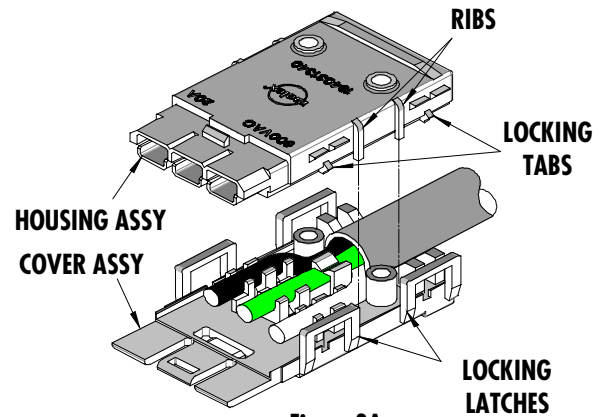
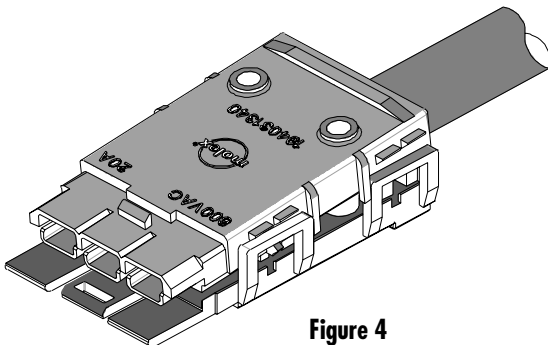

Figure 3A
Figure 4
- For connectors with four latches, position the housing assembly over the cover with the ribs in the housing aligned between the latches as shown in Figure 3A. Push the two halves together until the locking tabs engage as shown in Figure 4. For hinged connectors, position the hinge pins on the housing assembly into the mating holes in the cover as shown in figure 3B.